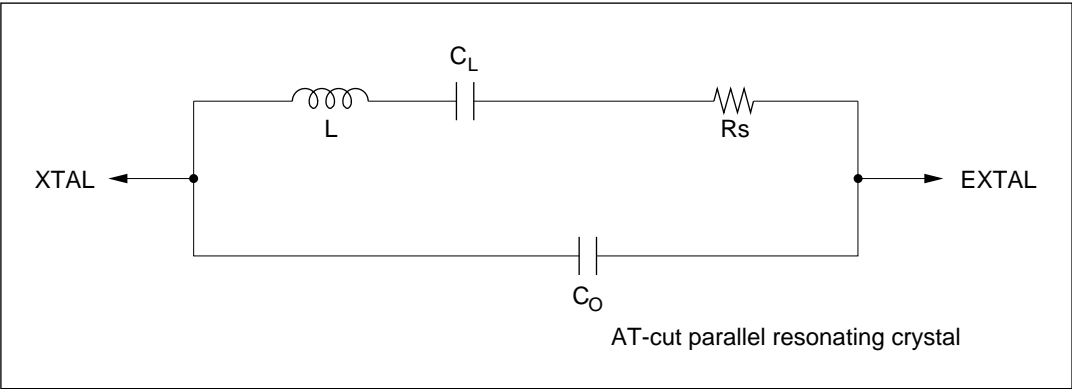

Figure 6-3 Equivalent Circuit of External Crystal
② **Crystal Oscillator:** Figure 6-3 shows an equivalent circuit of the crystal resonator. The crystal resonator should have the characteristics listed in table 6-2.